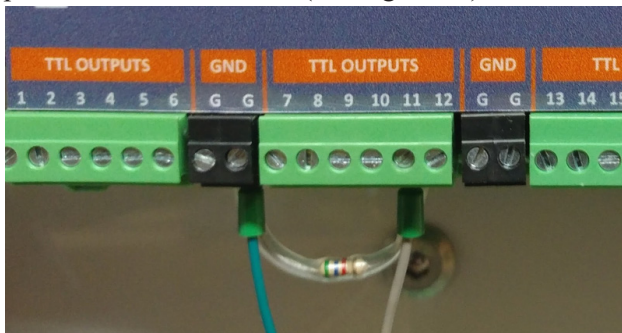

FIGURE 15—Resistor with heat shrink installed on MASSO
- It is a good idea to insulate any resistor mounted in this manner to avoid accidental contacts. Here it has been put into clear heat shrink (see Figure 15).